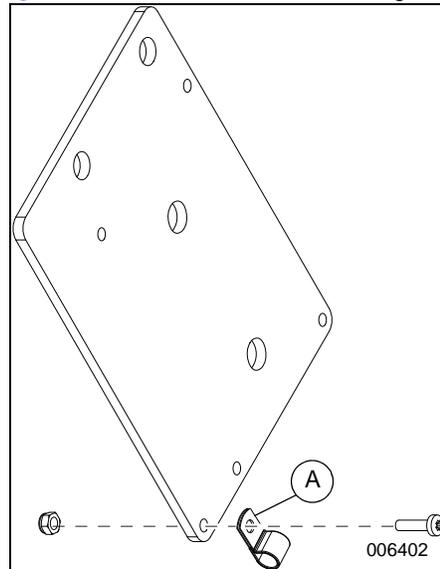

Figure 6. Tubing Clamp Removal
- See Figure 6. Remove and retain tubing clamp (A).